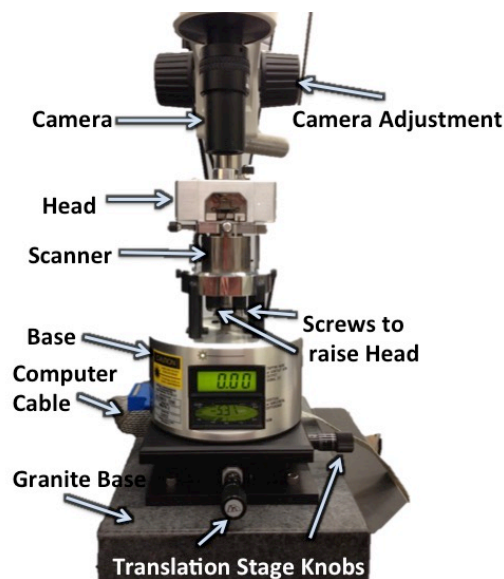
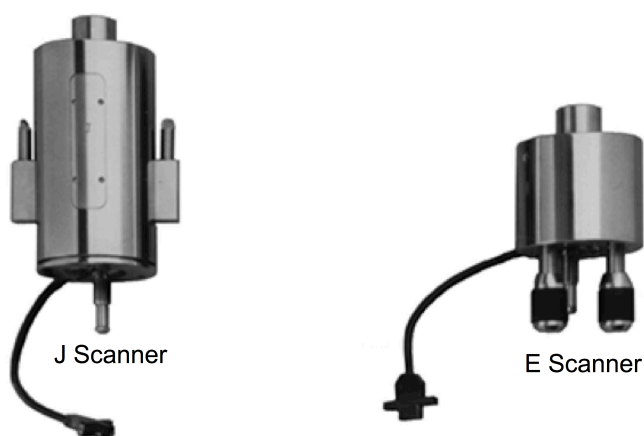

Figure 1. Diagram of the MultiMode AFM setup with camera.
Figure 6. The left is J scanner. The right is E scanner (longer) or A scanner (shorter).
- 1) Sign into the logbook. Review Figure 1 to remind yourself of the MultiMode 8 components. If you have not done so read the Experiment Guide in the online manual, it has detailed descriptions of how to set up the AFM.
- 4) The scanner is the cylindrical unit below the head (Figure 1). There are three scanners, A, E, and J, which have different x, y, and z range specifications (see Table 1, and Figure 6). Select the scanner that is appropriate for your sample. J scanner is recommended for general purposes and is the most convenient to use. To change the scanner, disconnect the cable connecting the scanner to the base and lift the scanner out of the base. For J scanner, use springs attached to it to connect to the base. For E scanner, use default springs. For A scanner, loose the two screws on the side and change to the shortest springs. Use the stabilizing screw in the front base to secure the scanner. Store it in an appropriate container located on the shelves at the back of the room.
- 6) Adjust the camera position by the knob in the back if you change the scanner. Raise the camera (Figure 1) to its maximum height by rotating the knobs on either side of the camera stand.
- 8) Connect the cable between the MultiMode AFM and the Nanoscope V controller (Figure 1). The laser will turn on and the displays will light up. Verify the left toggle switch is set to TM AFM for tapping mode. The cable connection is temperamental and so you should avoid touching the cable while working.
- b. For E or A scanner, manually raise the AFM head by adjusting the two manual screws below the scanner (Figure 1). Turn the screws counterclockwise when viewed from above (clockwise when viewed from below) to raise the head. (You are turning the screws to move them into the body of the scanner that raises the head.) The third screw is automatic and can be adjusted by pulling the right toggle switch toward “UP”.
- 20) Lower the camera and focus on the cantilever. Adjust the camera brightness until it is appropriate. Due to variation in probe size and its position in the probe holder, it may not be visible in the camera immediately. Move the AFM base (Figure 1) using the translation stage adjustment knobs to adjust the x and y positions until the tip is in view.
- 23) For J scanner, press the right toggle to “DOWN” to move the cantilever close to the sample surface. For E or A scanner, manually lower the cantilever down toward the surface by turning the screws (Figure 1) and press the right toggle switch toward “DOWN” to lower the automatic screw to keep the head level. Do this slowly until the cantilever comes into focus. You may need to move the translation stage some if the sample seems to move in the video display. You should now see both the surface of the sample and the cantilever.